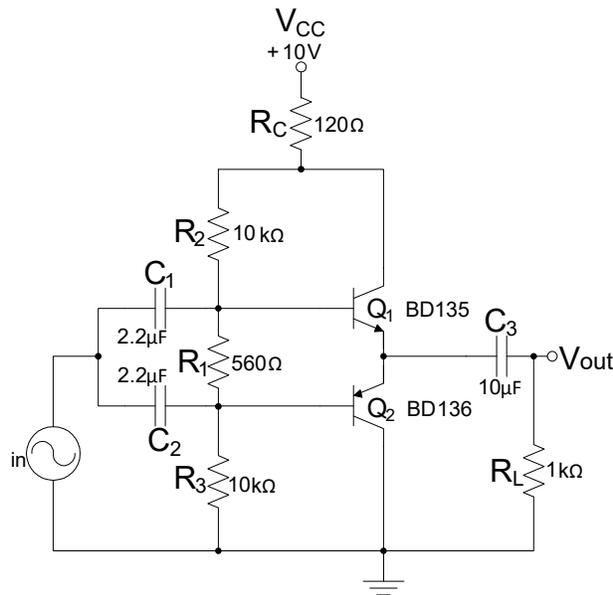

Fig 2.1: Class B Amplifier
In the circuit of Fig.2.1, the voltage across 560Ω resistor is approximately a quarter of 1V. This is the voltage across two base-emitter junctions of Q1 and Q2. Thus base and emitter of each transistor is effectively short. This biases the transistors at cut-off region that ensures class B operation. For positive half cycle of input signal, Q1 conducts and for negative half cycle Q2 conducts. These two class B operations are combined to an output for full 360° of operation.
1. Connect the circuit as shown in figure 2.1. Apply a sinusoidal signal at the input of frequency 1 kHz. The peak-to-peak value is 2V.